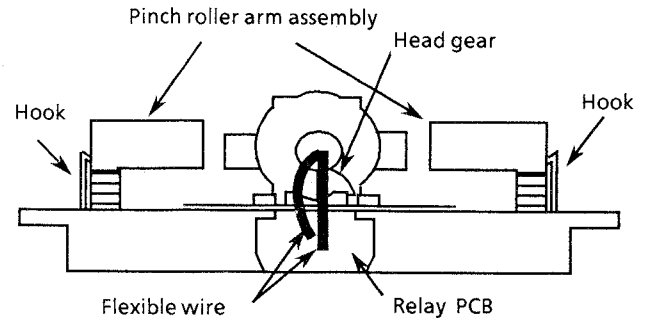

Fig. 13 Bottom view of the cassette mechanism
- (1) Remove the cassette mechanism assembly.
- (2) Unsolder the flexible wire on the relay PC Board and remove the 2 screws \textcircled{S} fixing the head assembly (Fig. 13,14).
- (2) Remove the hooks fixing the pinch roller arm assembly and remove the pinch roller assembly (Fig. 13).